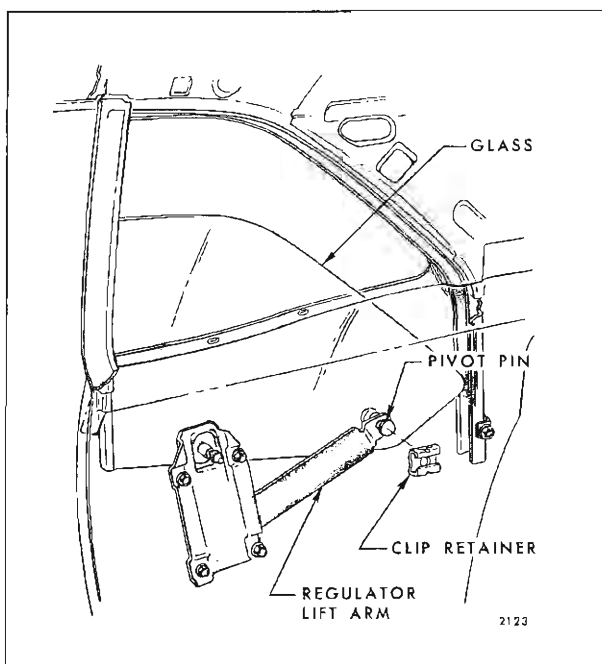

Fig. 7-5—Rear Quarter Window Attachment - Typical "A" Closed Styles
2. Operate quarter window to the position illustrated in Figure 7-5.
**NOTE:** Figures 7-5, 7-6 and 7-7 are typical of rear quarters with the inner panels removed. These figures identify the component parts of the rear quarter hardware (by style), their relationship and various attaching points.